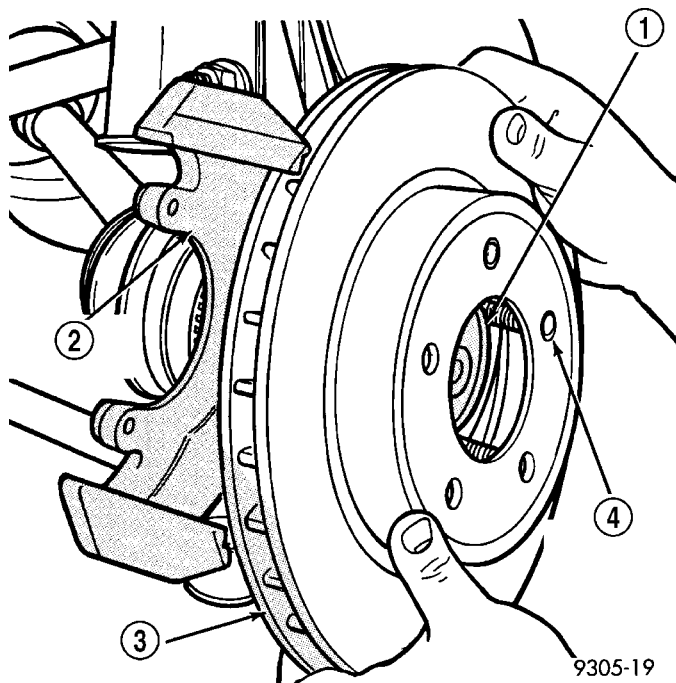

Fig. 26 Brake Rotor
(7) If required, remove rotor from hub by pulling it straight off wheel mounting studs (Fig. 26).